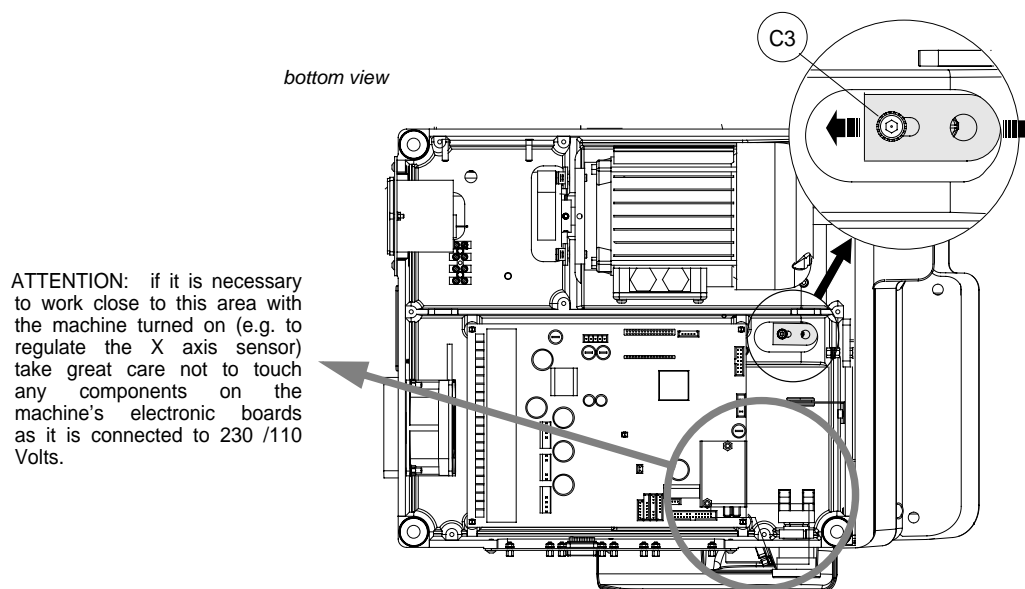

Fig. 32
- loosen the (C3) screw (fig. 32, page 41) that secures the sensor support plate. Manually move the sensor support plate up until the display's description goes from OFF to ON.
- tighten the (C3) screw (fig. 32, page 41) to secure the plate back into place.